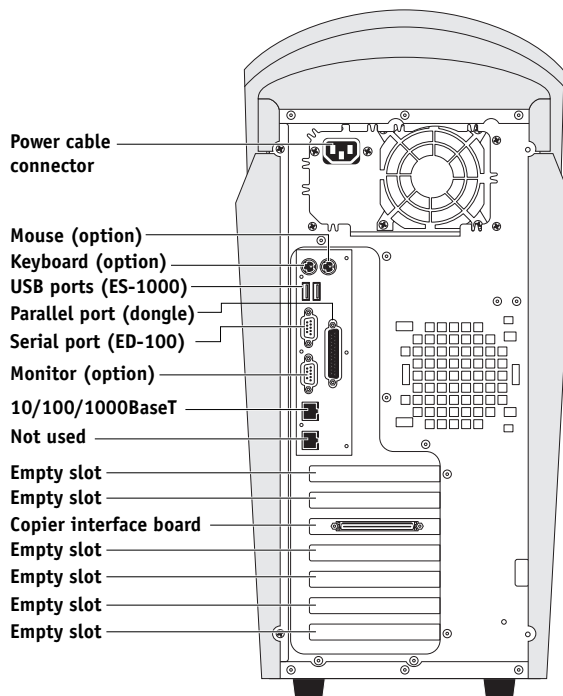

FIGURE 5-2 Back panel of the ColorPASS
- All interface cables to the system are plugged into the proper connectors on the back panel of the ColorPASS (see Figure 5-2).